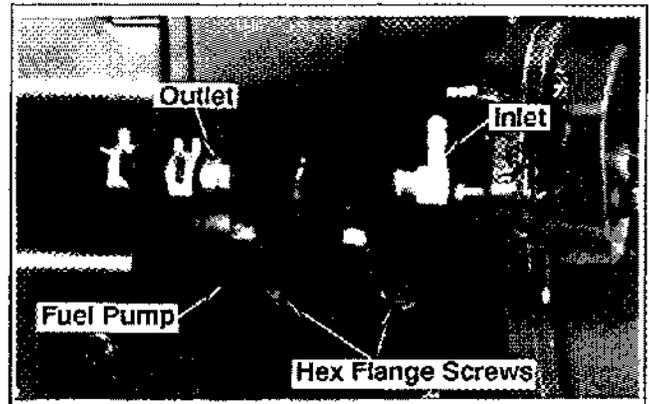

Figure 11-37. Installing Fuel Pump.
1. Install the rubber line and two hose clamps to the fuel pump end of the metal fuel line. Secure the rubber fuel line to the steel fuel line with one of the clamps. See Figure 11-37.